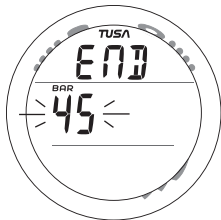

Fig. 46 - SET END ALARM
**SET END ALARM**, information includes (Fig. 46):